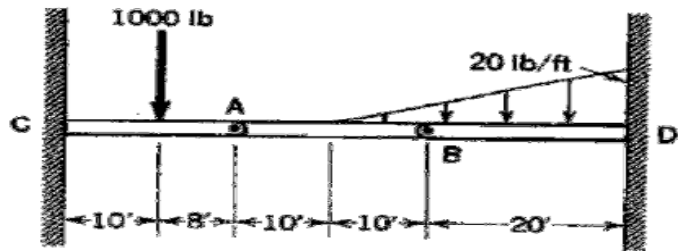

figure 2
2. Find the supporting force system for the cantilever beams connected to bar AB by pins (Fig. 2).